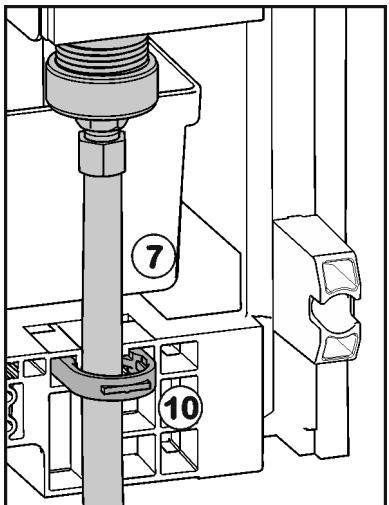

Fig. 19
- Affix the water supply *Fig. 19 (7)* to the housing, if necessary, using the locking element *Fig. 19 (10)*.